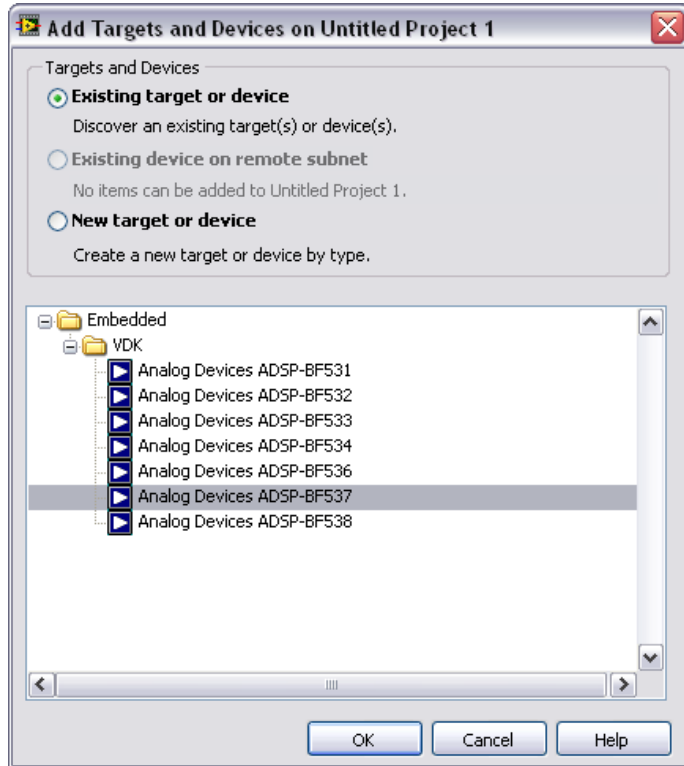

Figure 4. Adding a New Device
- Expand the **Embedded** folder and select **Analog Devices ADSP-BF537** as shown in Figure 4.